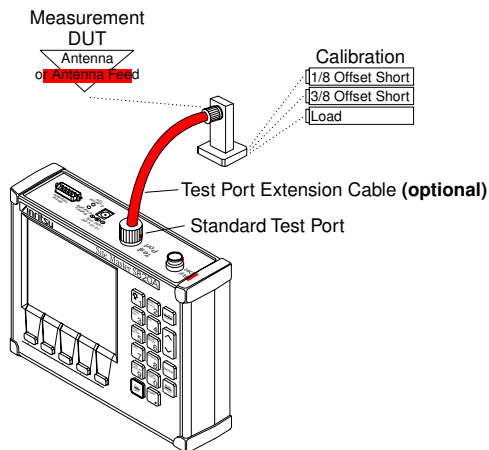

Figure 3-2. Waveguide Measurement/Calibration Test Setup
- Step 16.** If **WAVEGUIDE** is selected, follow the instructions in the message area and connect the 1/8 offset, 3/8 offset, and load when prompted. Refer to Figure 3-2.